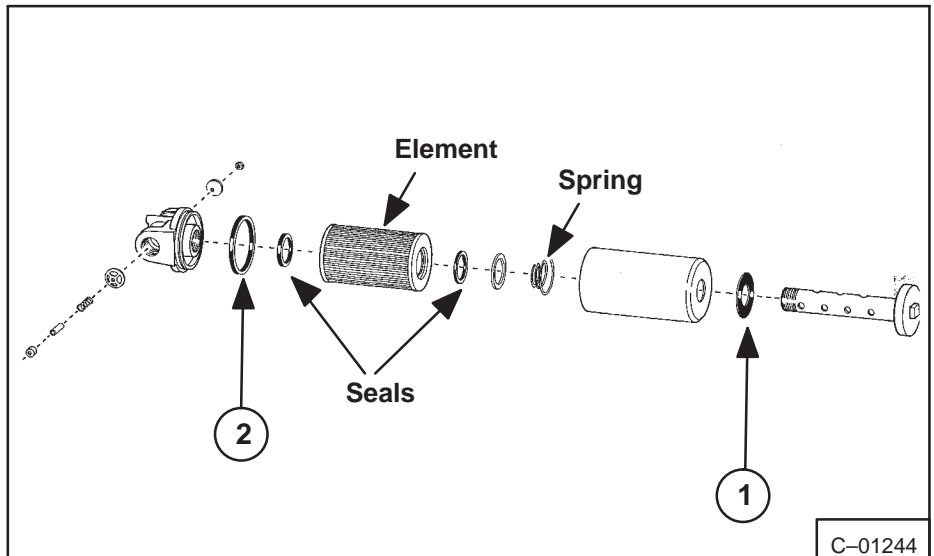

Fig. 1-4 Hydraulic Fluid Filter Assembly
4. Remove element, seals and spring from housing (Fig. 1-4).
5. Remove seal from center shaft (Fig. 1-4, Item 1).
7. Assemble new filter (Fig. 1-4).
8. Check housing seal (Fig. 1-4, Item 2).